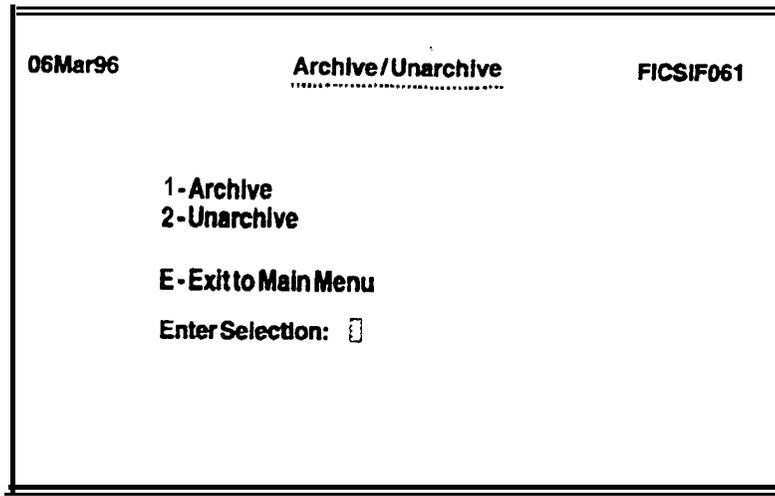

Figure 10-2. Archive/Unarchive Menu
3. From the Archive/Unarchive menu (see Figure 10-2) select **2-Unarchive** and press **RETURN**.